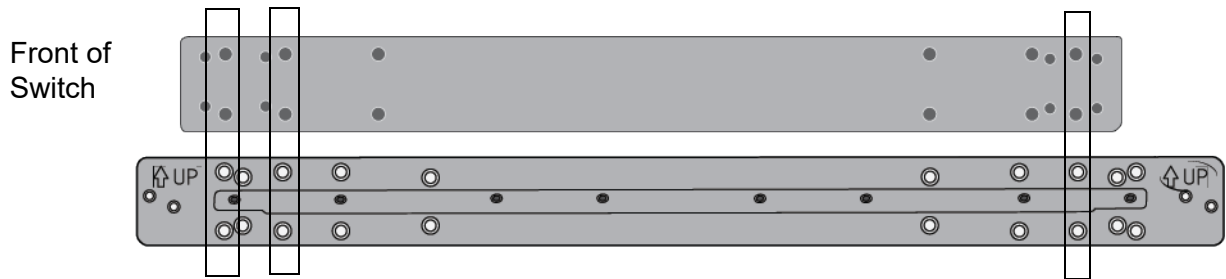

Figure 25. Inner Rail Screw Holes for the x950 Series
**x950 Series** Use six screws on each side. Refer to Figure 25.